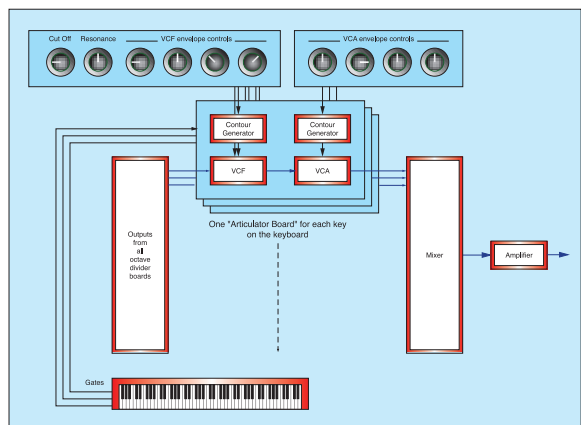

Figure 11: A true polysynth.
► articulate the *loudness* of each note correctly, there's still no way to make it articulate the individual *tone* (or brightness) of the notes. To do this, we must add a dedicated VCF and a second Contour Generator for each note, as shown in Figure 11 on page 84.
Let's finish this month's Synth Secrets by taking a brief look at two synthesizers that adopted this approach to polyphony. The first of these is the grandiosely titled Polymoog Synthesizer, a much maligned instrument that doesn't deserve the opprobrium that has been heaped upon it. Ignoring subjective views of its strengths (or lack thereof) the Polymoog has a unique architecture based on Figure 11. However, instead of providing user controls for the filters and amplifiers in each of the 'articulator' boards, it offers a handful of presets. This means that, when you press one of the buttons '1' to '8' in the centre of its control panel, you send predetermined CVs to the boards. Despite this minor limitation, the articulators still shape every note correctly. The Polymoog is a truly polyphonic synthesizer.
middle sibling in a family that comprises the PS3100, PS3200 and the mighty PS3300. The 3200 combined 'total' polyphony (you could press every note on its 48-key keyboard simultaneously, and each would be articulated correctly) with modularity (you could patch large chunks of it, and included 16 patch memories, too. Of course, the memories couldn't recreate any missing patch cables, but no matter... the PS3200 was, and remains, a unique, fantastic, dreamy... well, you get the picture. If you are an analogue *aficionado* and you see a good one of these at a sensible price, buy it. The important point here is that the PS3200 had all of its filters and amplifiers *before* its mixer, thus retaining true polyphony in all circumstances. Indeed, its architecture (notwithstanding a bucketful of extra facilities) is so similar to Figure 11 that we need no extra diagram to describe it.